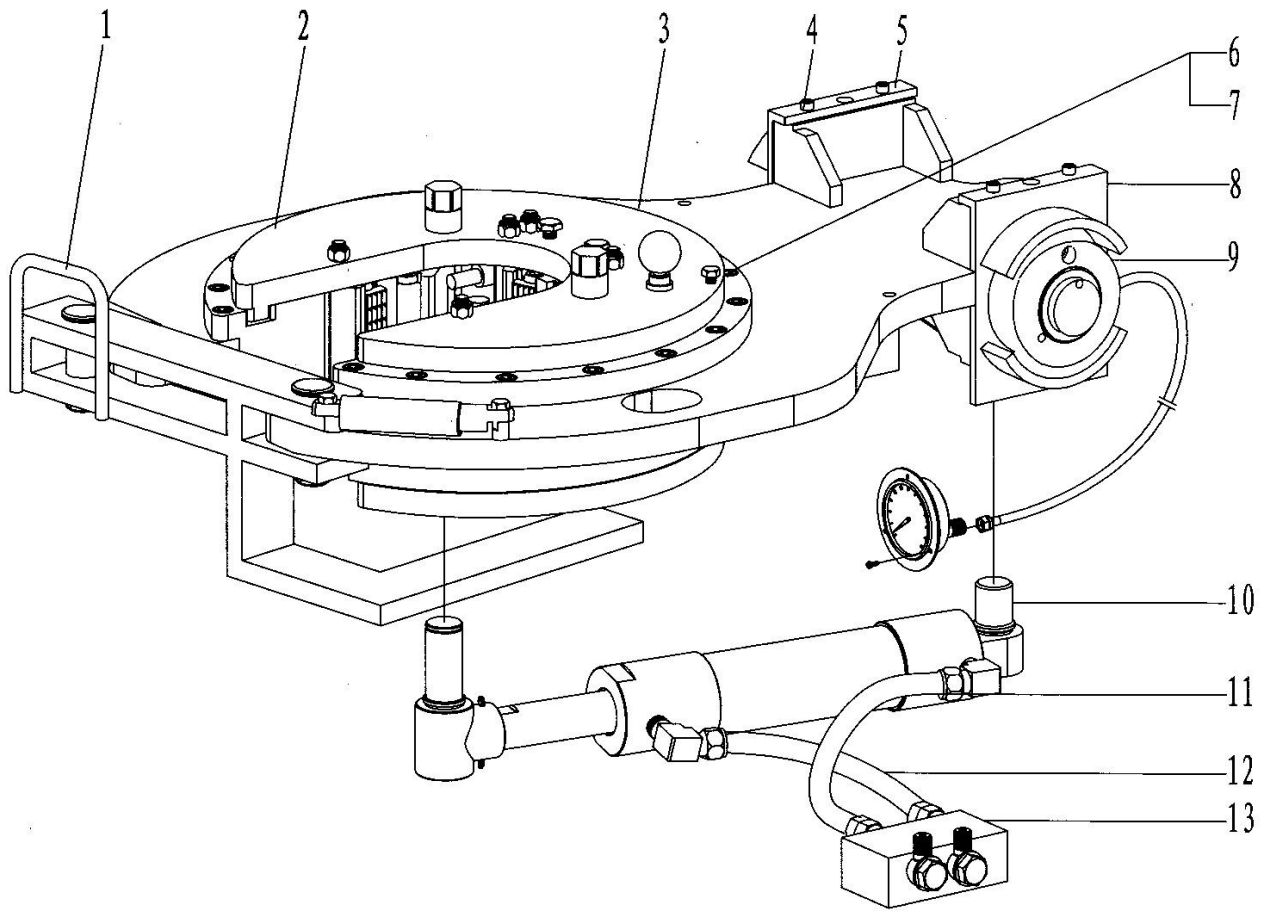

Fig. 21
3. Assembly of back tong (Fig 21, Table 18)